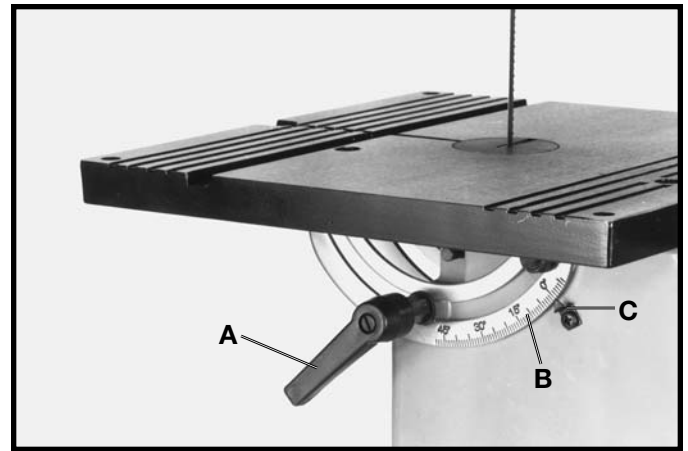

Fig. 27
The table can be tilted 48 degrees to the right and approximately 3 degrees to the left. To tilt the table, loosen lock handle (A) Fig. 27, tilt the table to the desired angle and tighten lock handle (A). **NOTE:** The table lock handle (A) can be repositioned by pulling out on the handle and repositioning it on the nut located underneath the hub of the handle. A scale (B) and pointer (C) is provided to indicate the degree of table tilt.